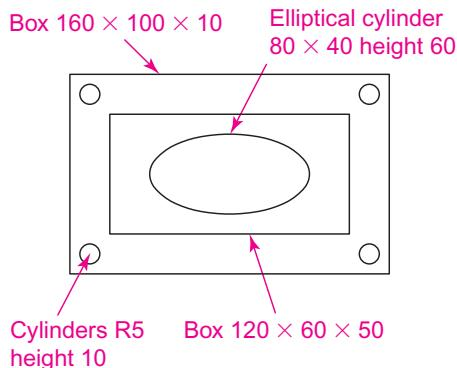
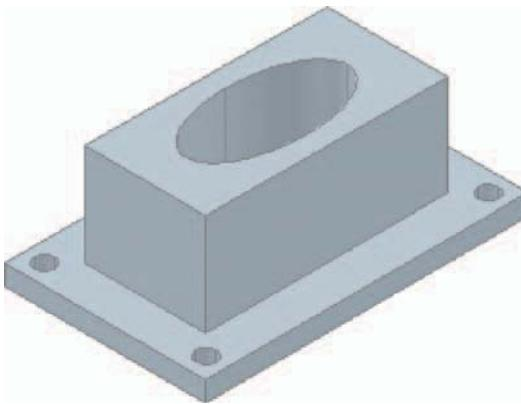

Fig. 12.32 Example – **Chamfer** and **Fillet** – sizes for the model
Fig. 12.33 Example – isometric view – **Chamfer and Fillet** – the model before using the tools
1. Working to the sizes given in Fig. 12.32 and using the **Box** and **Cylinder** tools, construct the 3D model in Fig. 12.33.